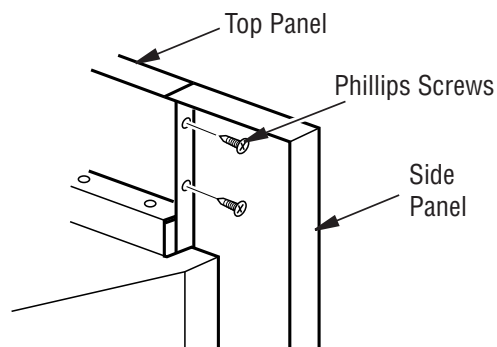

Figure 9 - Attaching Side Panels to Top Panel
2. Align screw holes in side panels with holes in top panel (see Figure 9). Insert and tighten #8 Phillips screws.